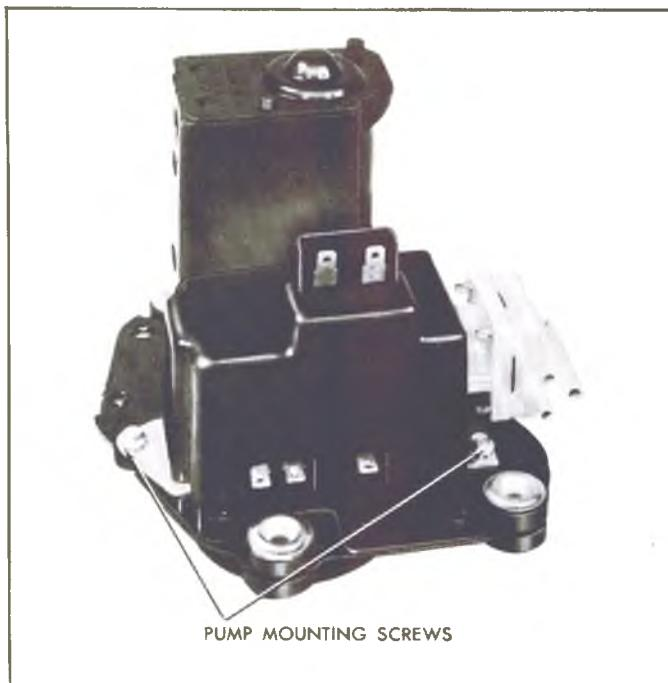
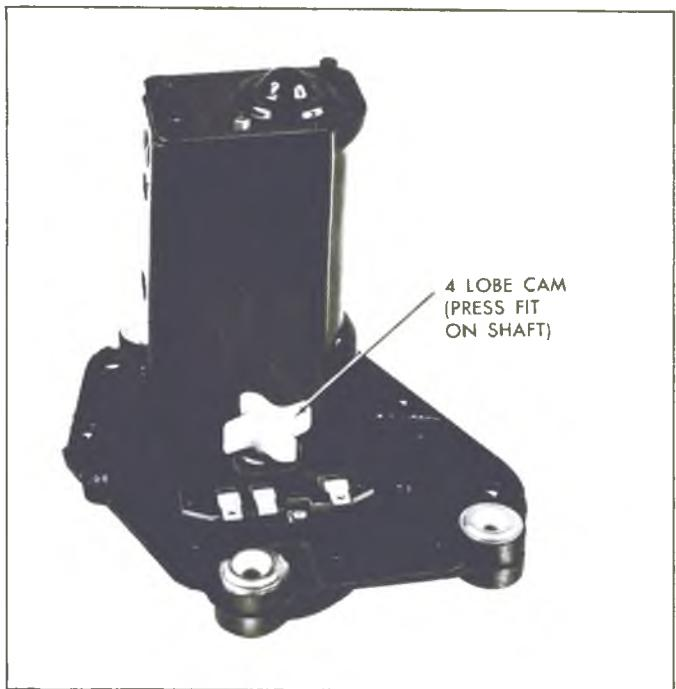

Fig. 43--Washer Pump Attaching Screws
Fig. 44-Washer Pump Drive Cam
- Remove washer pump drive cam as required (figs. 43 and 44). The cam is pressed on the shaft but can be wedged off by using two screwdrivers between cam and plate.
The positive displacement washer pump used on the two-speed non-depressed park wipers (fig. 43) use a pump mechanism consisting of a piston, piston spring and valve arrangement driven by a (4) lobe cam, and follower assembly (fig. 45). The cam is attached to one shaft of the wiper motor output gear (fig. 44). Programming is accomplished electrically and mechanically by a relay assembly and ratchet wheel arrangement.
CAUTION: Install washer multiplug harness connector with battery lead on terminal with no tang (fig. 43). Incorrect installation of connector will result in direct ground and destroy wiper motor fuse.